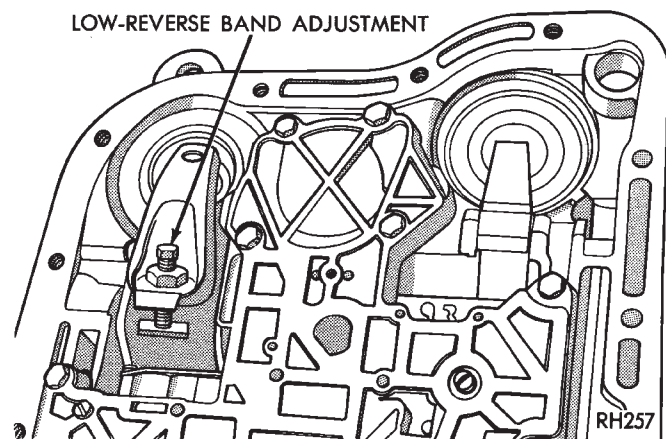

Fig. 365 Rear Band Adjustment Screw Location
- (1) Raise vehicle.
- (2) Remove transmission oil pan and drain fluid.
- (3) Loosen band adjusting screw locknut 5-6 turns. Be sure adjusting screw turns freely in lever.
- (4) Tighten adjusting screw to 8 N·m (72 in. lbs.) torque (Fig. 365).
- (5) Back off adjusting screw 2 turns.
- (6) Hold adjusting screw in place and tighten locknut to 34 N·m (25 ft. lbs.) torque.
- (7) Position new gasket on oil pan and install pan on transmission. Tighten pan bolts to 17 N·m (13 ft. lbs.) torque.
- (8) Lower vehicle and refill transmission with Mopar ATF Plus, Type 7176 fluid.